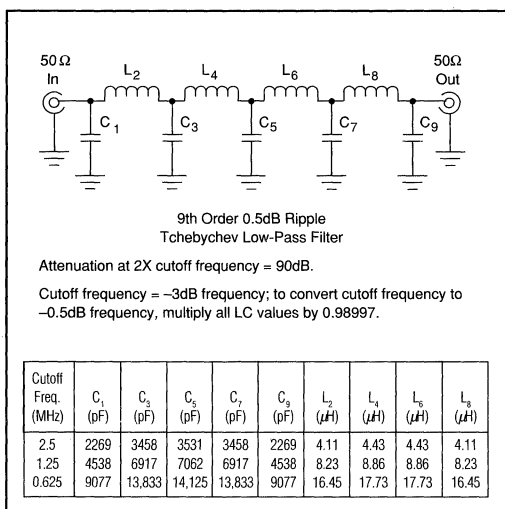

FIGURE 4. Ninth-Order Harmonic Filter.
- Low-pass filtering (or bandpass filtering) of test signal generators is absolutely necessary for THD and IMD tests. An easily built LC low-pass filter (Figure 4) will eliminate harmonics from the test signal generator. Care must be taken not to saturate the filter. Saturation of these filters may cause odd order harmonics.